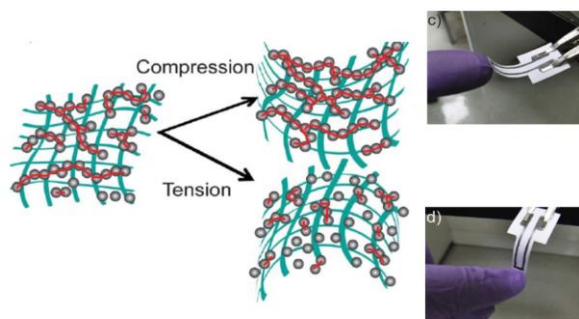

Figure 1: Variation of the number of connected graphite particle chains depending on the types of deformation.
- **Percolation Theory** (fig.1): This behavior relies on the concept of percolation in granular systems. As the pencil trace acts like a network of particles, the distance between them affects conductivity.